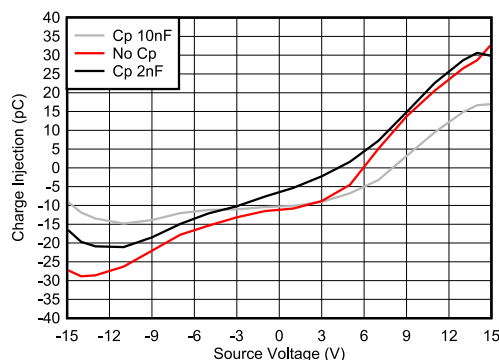

Figure 9-2. Charge Injection Compensation
The TMUX620x contain specialized architecture to reduce charge injection on the Drain (D). To further reduce charge injection in a sensitive application, a compensation capacitor (C_p) can be added on the Source (S_x). This will ensure that excess charge from the switch transition will be pushed into the compensation capacitor on the Source (S_x) instead of the Drain (D). As a general rule of thumb, C_p should be 20x larger than the equivalent load capacitance on the Drain (D). Figure 9-2 shows charge injection variation with different compensation capacitors on the Source side. This plot was captured on the TMUX6219 as part of the TMUX62xx family with a 100pF load capacitance.
Many SAR ADCs have an analog input structure that consists of a sampling switch and a sampling capacitor. Many signal chains will have a driver amplifier to help charge the input of the ADC to meet a fast system acquisition time. However a driver amplifier is not always needed to drive SAR ADCs. Figure 9-2 shows a typical diagram of a sensor driving the SAR ADC input directly after being passed through the multiplexer. A filter capacitor (C_{FLT}) is connected to the input of the ADC to reduce the sampling charge injection and provides a charge bucket to quickly charge the internal sample-and-hold capacitor of the ADC.
The sensor block simplifies the device into a Thevenin equivalent voltage source (V_{TH}) and resistance (R_{TH}) which can be extracted from the device datasheets. Similarly the multiplexer can be thought of as a series resistance ($R_{ON(MUX)}$) and capacitance ($C_{ON(MUX)}$). To ensure maximum precision of the signal chain the system should be able to settle within 1/2 of an LSB within the acquisition time of the ADC. Figure 9-2 shows the time constant can be calculated. This equation highlights the importance of selecting a multiplexer with low on-resistance to further reduce the system time constant. Additionally low charge injection performance of the multiplexer is helpful to reduce conversion errors and improve accuracy of the measurements.